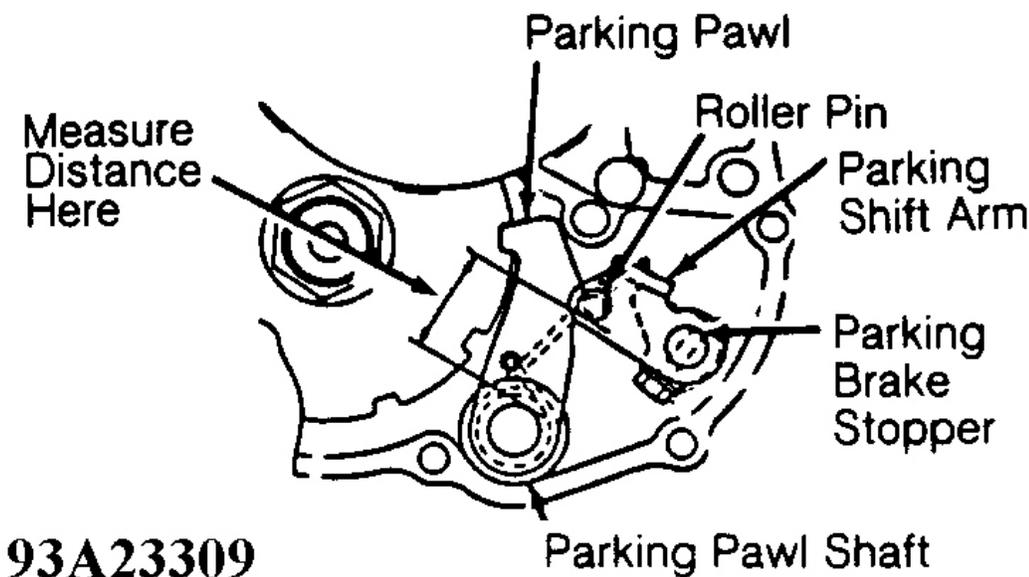

Fig. 35: Measuring Parking Brake Stopper Distance
32. Place parking brake lever in "P" position so parking pawl engages parking gear. Measure distance between parking pawl shaft and roller pin on parking shift arm. See **Fig. 35** . This is parking brake stopper distance.